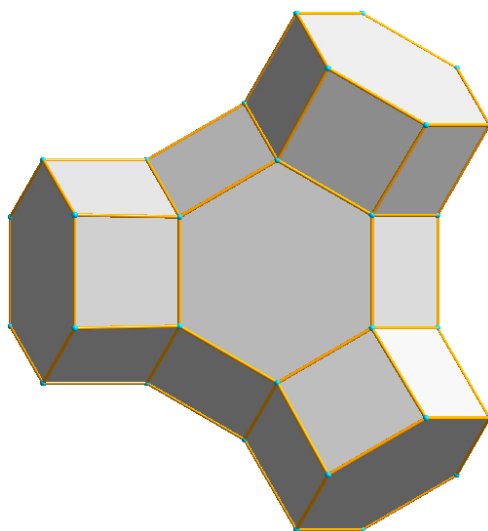

Fig. 63: The structure is again viewed towards the (1,1,1)-plane.
In the fourth and final step, the connection of the β -cages with each other will be visualized. For that, we have to change the orientation again in order to view along the (1,1,1)-axis: Choose the "Viewing Direction" command from the "Picture" menu, set the input fields next to "h,k,l" to 1, then confirm with "Set", then close the dialog box. You will now look at the structure picture in the direction perpendicular to the (111) plane (fig. 63). Again, you may have to press <F9> afterwards in order to readjust the enlargement factor.